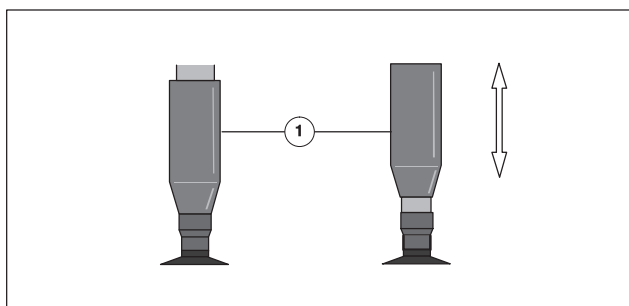

Fig. 21 Shutting off suckers
1. **To shut off:** push up the sleeve (Fig. 21/1) on the upper part of the suckers.